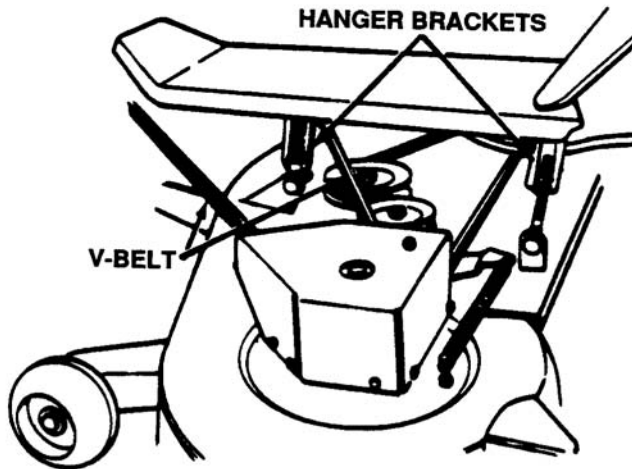

Figure 8-24. Attaching Hanger Brackets
6. Attach four tractor hanger brackets to the deck with four flat washers and four hairpin clips. The left front tractor hanger bracket goes through the center of the V-belt. Attach the rear hanger brackets first, then the front hanger brackets. See Figure 8-24.